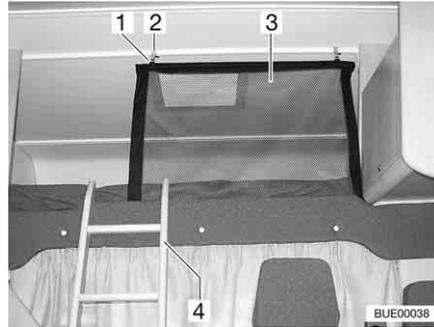
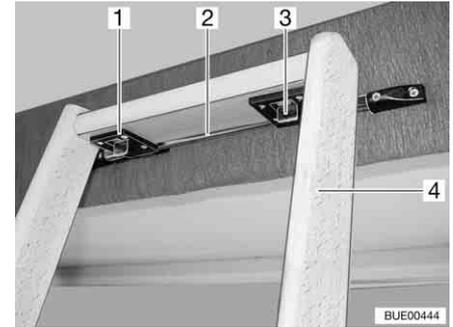

Fig. 110 Overcab bed
Fig. 111 Access ladder, catch
Always use the access ladder (Fig. 110,4 and Fig. 111,4) provided as standard to access the overcab bed.
- Hang the ladder with the two hooks (Fig. 111,1) on the rail (Fig. 111,2) of the alcove flap.
- Push the two catches (Fig. 111,3) forward.
The safety net (Fig. 110,3) is stored as standard between the mattress and slatted frame. Only use the safety net if persons are already in the alcove.
- Attach the holder (Fig. 110,1) to the eyes on the ceiling (Fig. 110,2).